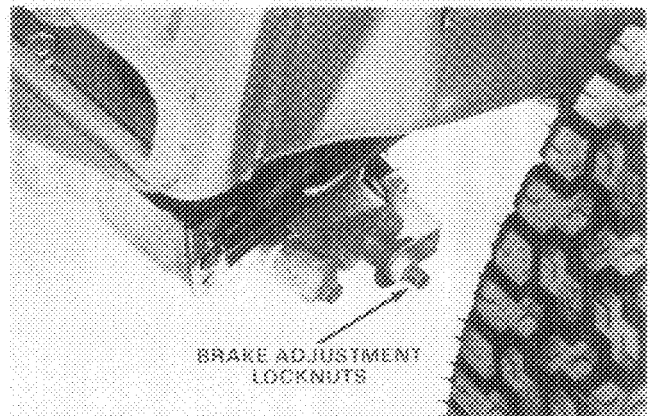

Figure 35
2. Tighten locknut approximately 1/4 turn clockwise (Fig. 35).